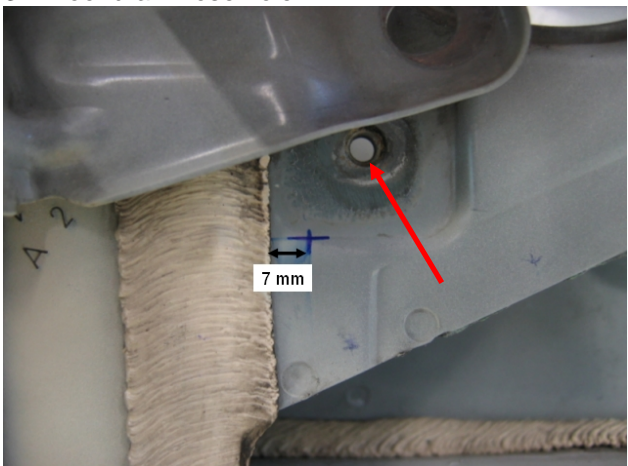

Figure 3
6. Remove the lower bolt on the fender bracket (Figure 3, arrow) and bend the bracket upwards.